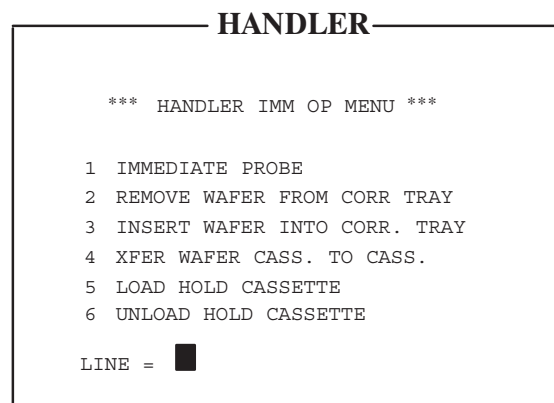

FIGURE 4–15: HANDLER IMMEDIATE OPERATION MENU (SMIF)
To handle the processing of these intervention wafers, a different Immediate Operation Menu is provided (*Figure 4–15*). To access this menu, press the < IMM OP MENU > (< F7 >) key. This menu is accessible from either the LD/UL CASS or XFER WAFER state, but only items 5 and 6 are available from the LD/UL CASS mode.